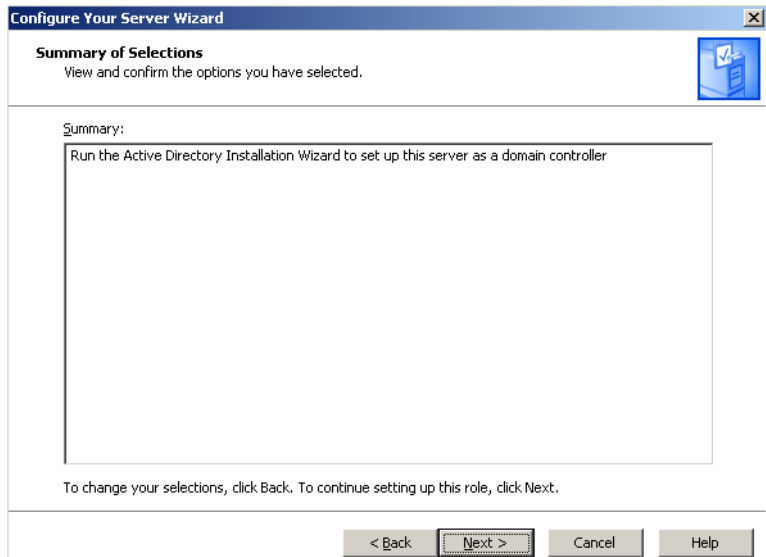

Figure D-26 Summary of selections dialog
7. Verify your selection displayed in the **Summary of Selections** listing shown in figure D-26, then click the **Next** button to proceed.